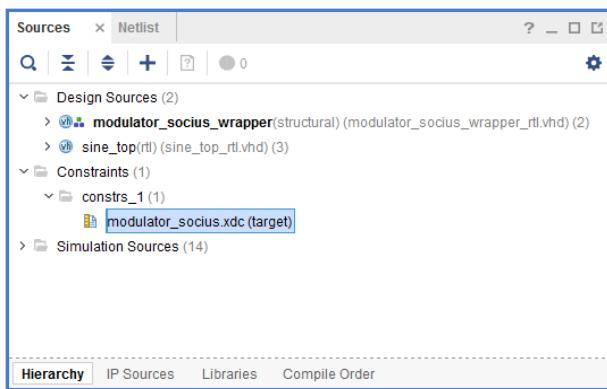

Figure 10.19: modulator.xdc constraints file in the Sources window
- Expand **Constraints** folder, see Figure 10.19